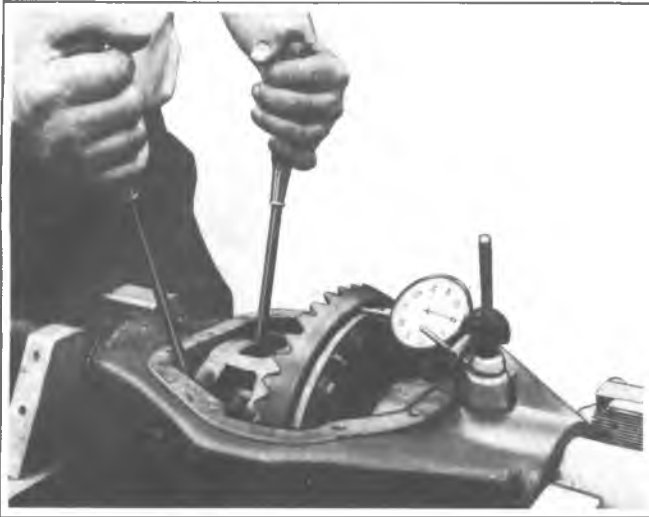

Fig. 8F -Screwdrivers Against Case
7. Reposition the screwdrivers to the opposite side of the differential case as shown in figure 8F.